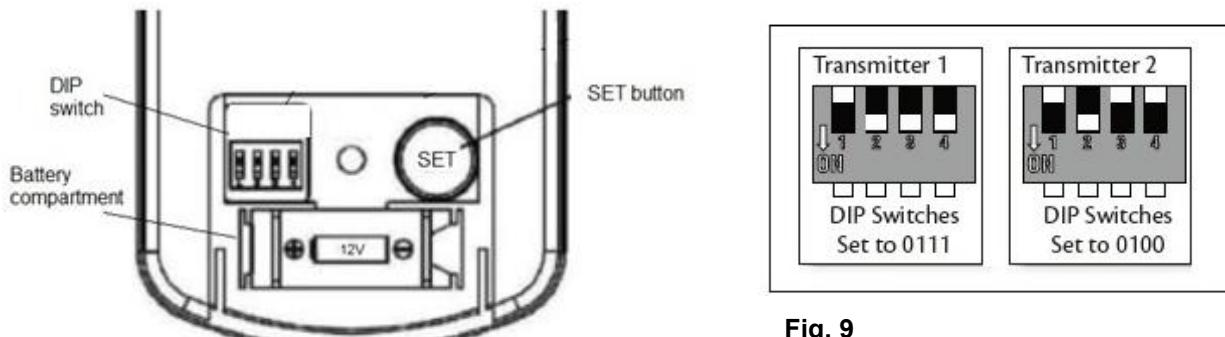

Fig. 9
- Slide the cover of the battery compartment of the transmitter to access the DIP switches. This will be transmitter 1. Fig.9
- Slide the cover of the battery compartment of the transmitter to access the DIP switches. This will be transmitter 2. Fig.9